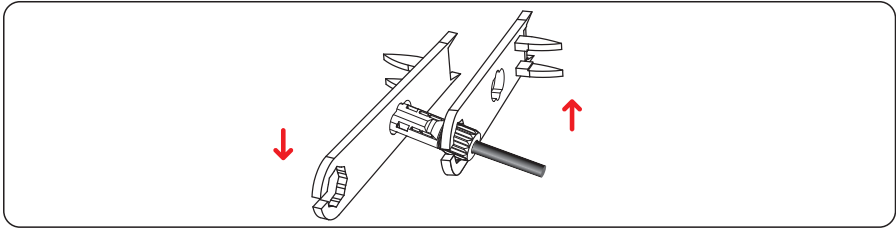

Figure 5.15 Locking connectors
**Step 4** Tighten the locking nuts on the positive and negative connectors using a removal wrench, as shown in Figure 5.15.